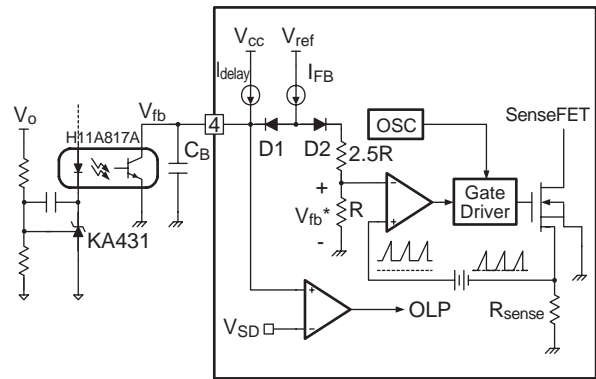

Figure 11. Pulse Width Modulation (PWM) Circuit
3. Feedback Control: The FSCQ-Series employs current mode control, as shown in Figure 11. An optocoupler (such as Fairchild's H11A817A) and shunt regulator (such as Fairchild's KA431) are typically used to implement the feedback network. Comparing the feedback voltage with the voltage across the Rsense resistor plus an offset voltage makes it possible to control the switching duty cycle. When the reference pin voltage of the KA431 exceeds the internal reference voltage of 2.5V, the H11A817A LED current increases, pulling down the feedback voltage and reducing the duty cycle. This event typically happens when the input voltage is increased or the output load is decreased.
3.1 Pulse-by-Pulse Current Limit: Because current mode control is employed, the peak current through the SenseFET is limited by the inverting input of the PWM comparator (Vfb*) as shown in Figure 11. The feedback current (IFB) and internal resistors are designed so that the maximum cathode voltage of diode D2 is about 2.8V, which occurs when all IFB flows through the internal resistors. Since D1 is blocked when the feedback voltage (Vfb) exceeds 2.8V, the maximum voltage of the cathode